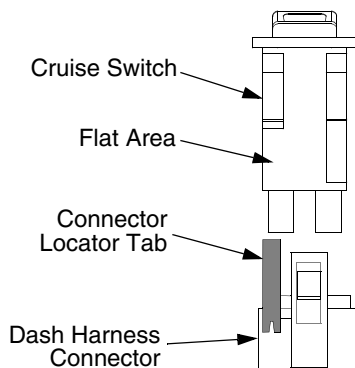

Figure 3
- Align the cruise switch (Ref.6) and the dash harness connector so that the locator tabs on each side of the connector will slide up on the flat area of the switch, then plug the switch into the connector. See Figure 3.